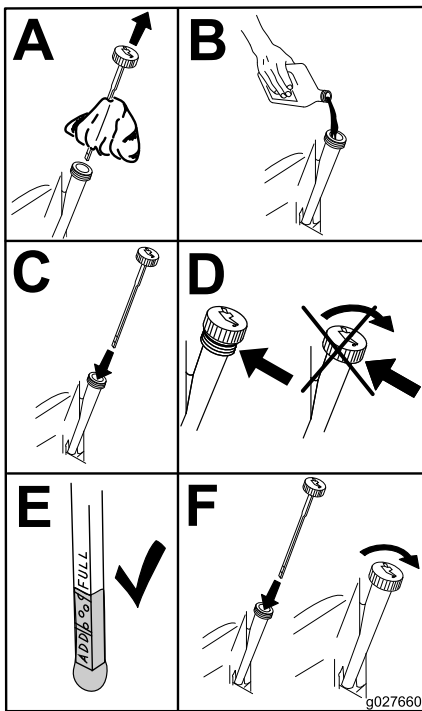

Figure 41
6. Slowly pour approximately 80% of the specified oil into the filler tube and slowly add the additional oil to bring it to the **Full** mark (Figure 41).